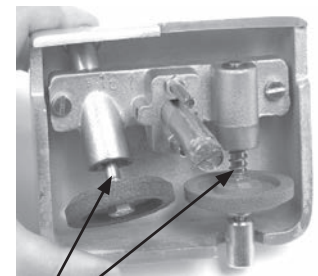

Figure 17-3
2. Put several drops of Globe oil on the shaft behind each sharpening stone (Fig 17-3).